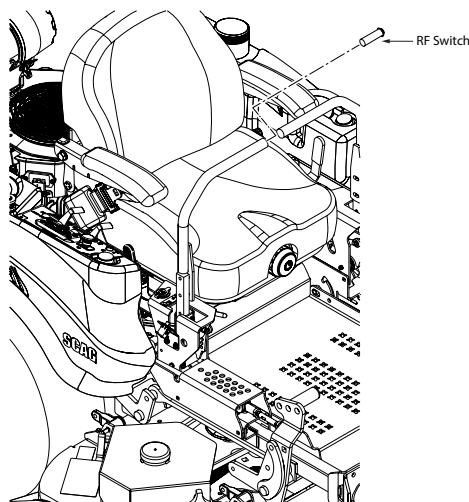

Figure 3-25. RF Switch Installation
1. Remove and retain the two (2) 5/16-18 x 1 1/4" bolts securing the cutting height bracket to the frame. See Figure 3-25.
2. Install the RF control module mounting bracket to the cutting height bracket using the 5/16 - 18 x 1 1/4" bolts removed in step 1. See Figure 3-25.